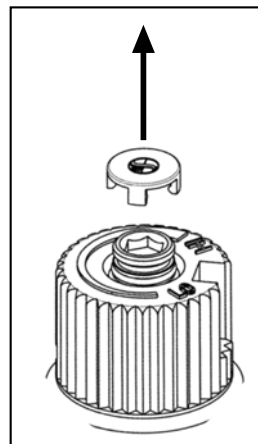

Figure 10: Removing valve cap.
a) Remove the black protection cap from the HI/LO knob by hand shown in Figure 10.
g) Re-attach the black protection cap that was removed in step a (Figure 10).